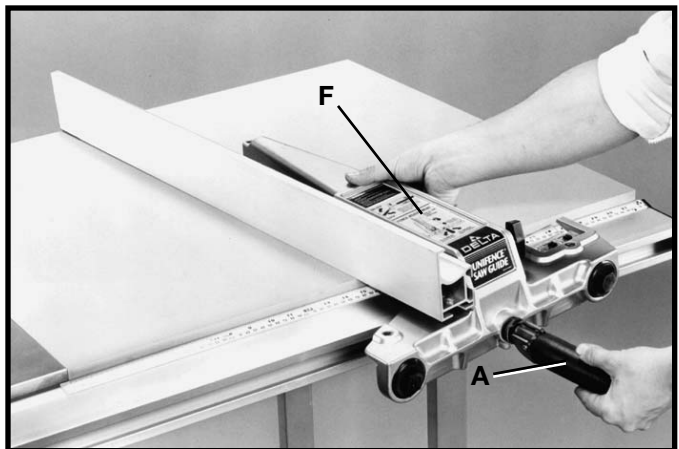

Fig. 114
6. To remove the fence and fence body assembly (F) Fig. 114, from the guide rail, lift up on fence clamping lever (A) and turn lever (A) to the CCW indent position. The fence assembly (F) can then be pulled straight off the guide rail and removed, as shown in Fig. 114.